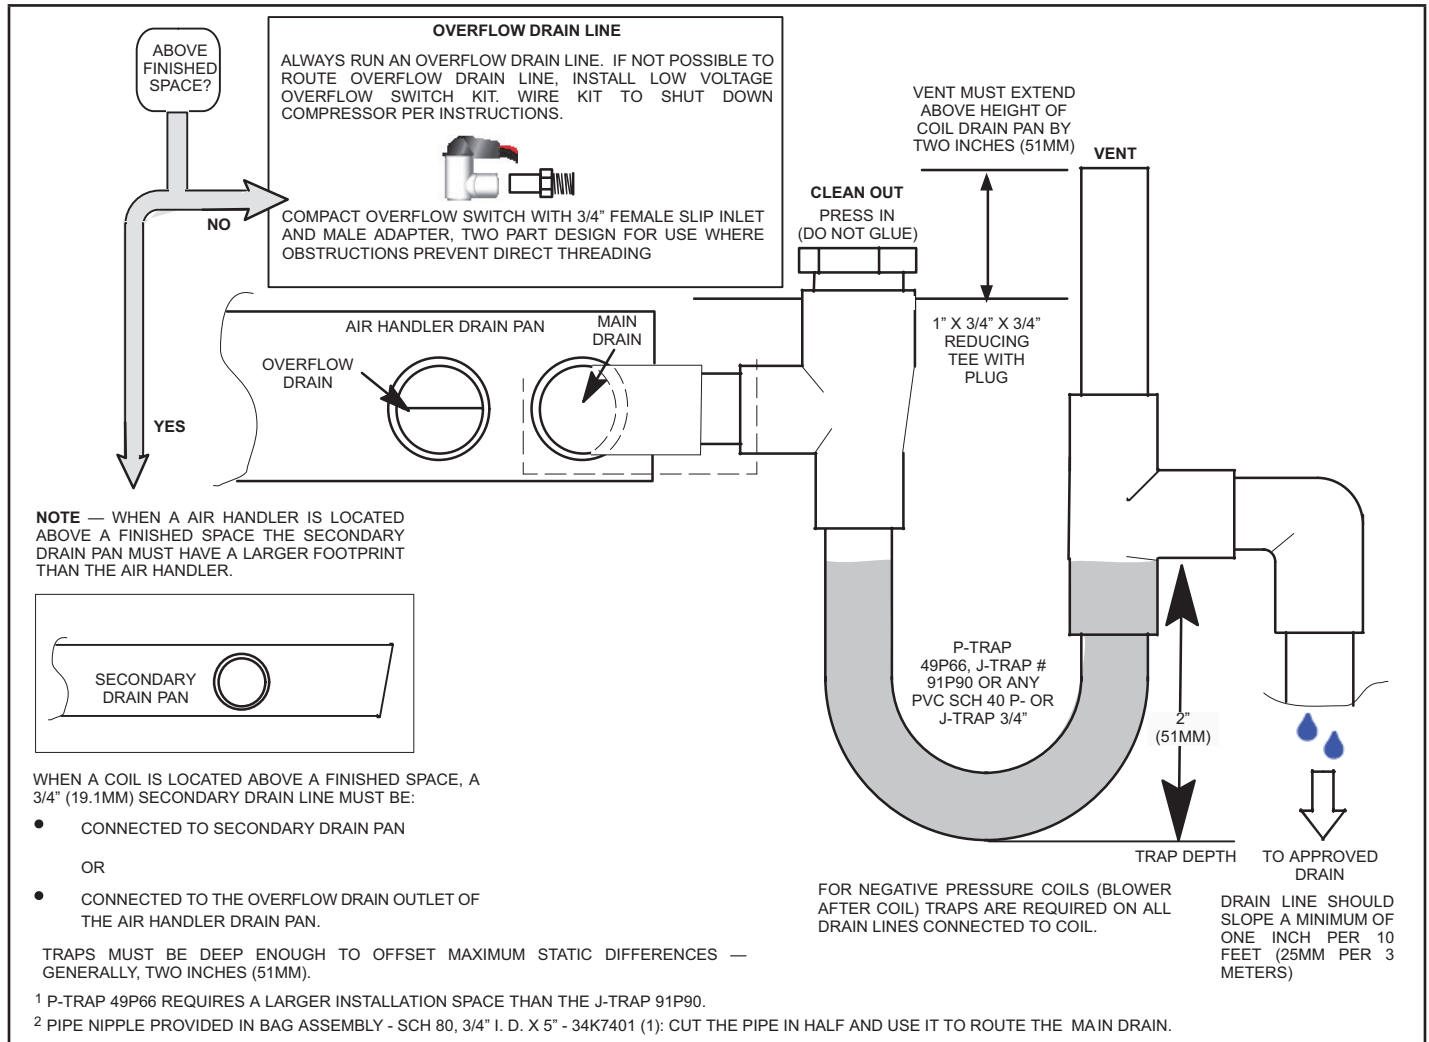

FIGURE 13. Typical Main and Overflow Drain
- 6 - Install a 2" trap in the main (primary) drain lines as close to the unit as practical (see figure 13). Make sure the top of the trap is below the connection to the drain pan to allow complete drainage of the pan.
NOTE - Horizontal runs must have an anti-siphon air vent (standpipe) installed ahead of the horizontal run. See figure 13. An extremely long horizontal run may require an oversized drain line to eliminate air traps.